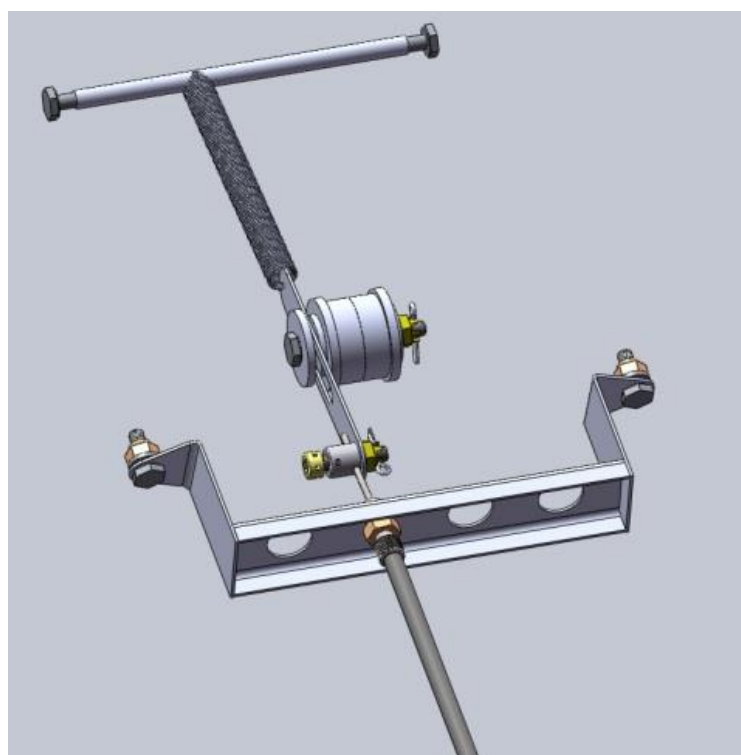

Figure 3: Principle of Control Assembly
5. Install the Tail wheel Lock Control Assembly XA42-3261-001 on Seat Spar and Elevator Bell Crank XA42-2730-100, see Figure 3 to Figure 7: